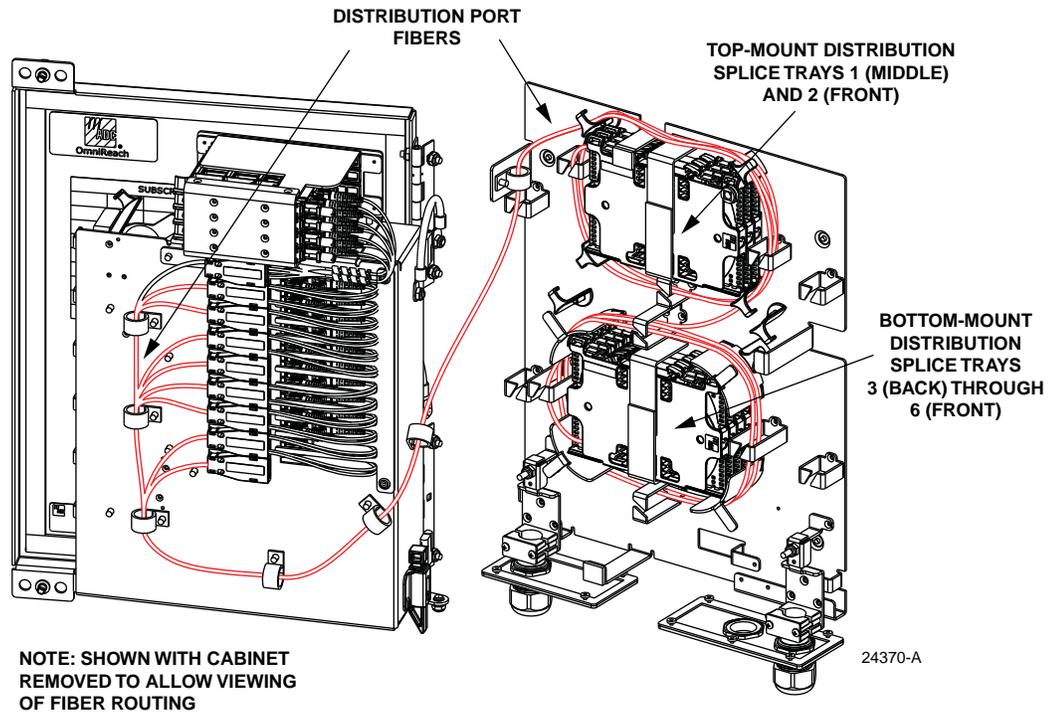

Figure 31. Distribution Splice Trays and Distribution Port Fiber Routing
1. Locate the distribution cable splice trays which are mounted against the back of the cabinet in two locations, as shown in Figure 31, and locate the distribution port fibers which are routed to the distribution splice trays.